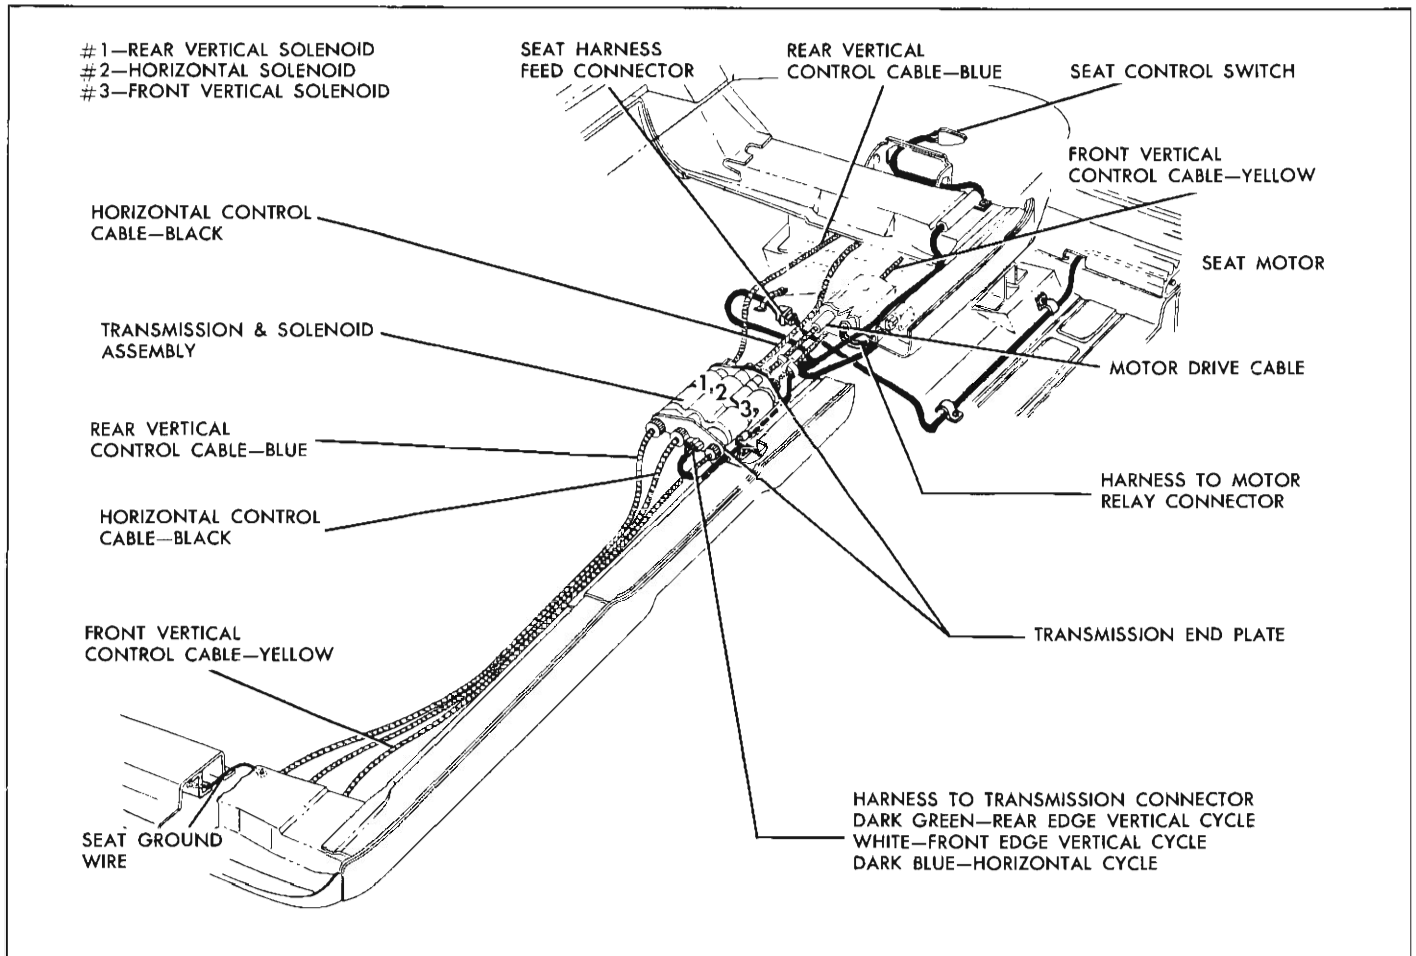

Fig. 44—Six Way Seat Installation
Solenoid #1 (fig. 44) controls the vertical movement of the rear edge of the seat. Solenoid #2 controls the horizontal movement of the seat. Solenoid #3 controls the vertical movement of the front edge of the seat. In addition to the six seat adjuster drive cables at the transmission assembly, a motor drive cable is installed from the motor to the transmission assembly (fig. 44). When one of the control switch buttons is actuated, the motor and one of the solenoids are energized simultaneously. The solenoid plunger engages the large gears with a driving gear. The driving gear rotates the large gears which rotates the drive cables and operates both adjusters. When the switch contacts are opened, a spring returns the solenoid plunger to its original position, disengaging the large gears from the driving gear.
4. To install horizontal and vertical cables, reverse removal procedure. Make sure cables are installed to correct gear nuts (fig. 44).
2. Disconnect wire harness connector from transmission (see Figure 44).